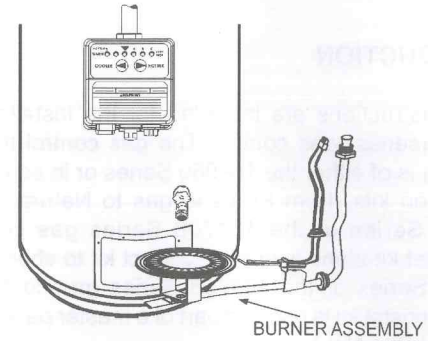

FIGURE 4
6. Remove the burner assembly from the water heater, see Figure 4.